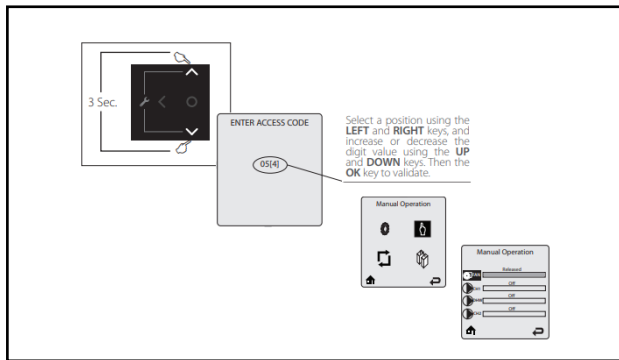

Fig. 2
- Appliance must be operating in service mode at 100% for high fire and 1% for low fire when CO₂/O₂ values are measured (Fig.2 / 3). Heating circuit should have all circulation pumps operating, providing sufficient flow through the appliance.